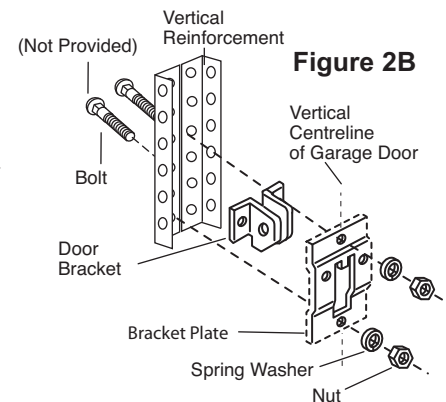

Figure 2B
- Alternately, use two 8 mm bolts, spring washers and nuts (not provided) (Figure 2B).